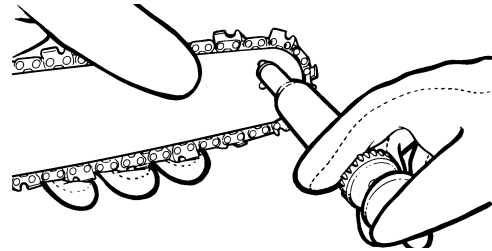

Fig. 37
3. Using the Lube Gun (not included), insert tip of lube gun into the lubrication hole and inject grease until it appears at outside edge of sprocket tip (Fig. 37).